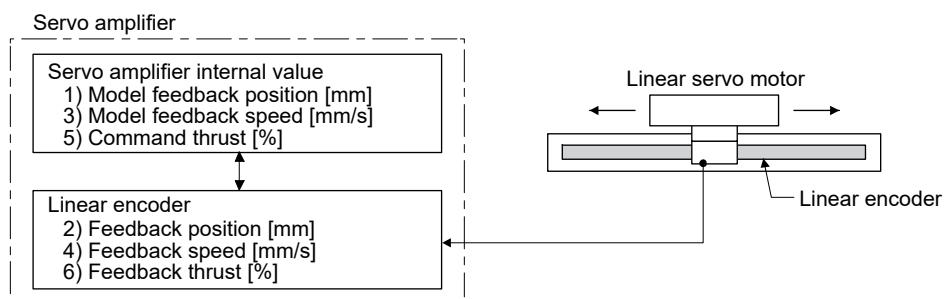

Figure 14.1 Outline of linear servo control error detection function
When you compare the model feedback position (1)) and the feedback position (2)) in figure 14.1, if the deviation is more than the value of [Pr. PL05 Position deviation error detection level] (1 mm to 1000 mm), [AL. 42.1 Servo control error by position deviation] will occur and the linear servo motor will stop. The initial value of this detection level is 50 mm. Replace the set value as required.
When you compare the model feedback speed (3)) and the feedback speed (4)) in figure 14.1, if the deviation is more than the value of [Pr. PL06 Speed deviation error detection level] (1 mm/s to 5000 mm/s), [AL. 42.2 Servo control error by speed deviation] will occur and the linear servo motor will stop. The initial value of this detection level is 1000 mm/s. Replace the set value as required.
When you compare the command thrust (5) and the feedback thrust (6) in figure 14.1, if the deviation is more than the value of [Pr. PL07 Torque/thrust deviation error detection level] (1% to 1000%), [AL. 42.3 Servo control error by torque/thrust deviation] will occur and the linear servo motor will stop. The initial value of this detection level is 100%. Replace the set value as required.